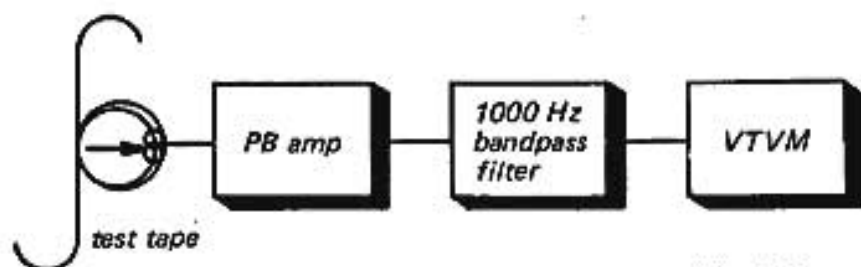

Fig. 8-3
- 3) Play back the tape. Connect the LINE OUTs of both channels to the bandpass filter as shown in Fig. 8-3. Read the output voltages by a VTVM. (Track 1 is at L-channel and track 3 at R-channel.)
- 4) Exchange reels, and play back the tape with no recordings. Make connections as shown in Fig. 8-3. Read the output voltages. (Track 4 is at L-channel and track 2 at R-channel.)